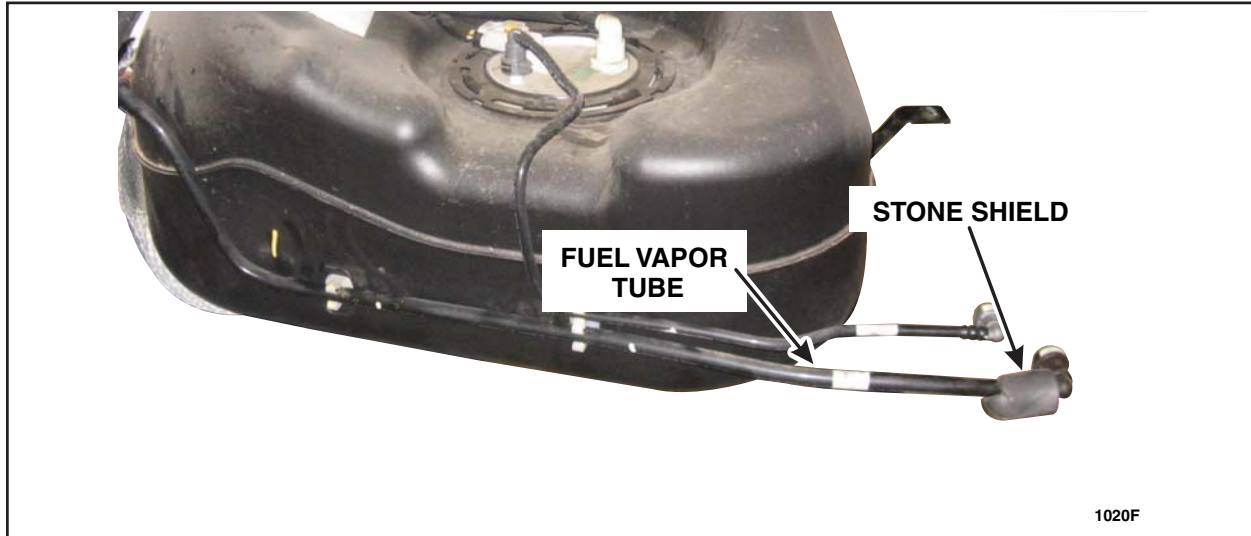

FIGURE 2
16. Remove the stone shield from the fuel vapor tube. See Figure 2.
42. Install the stone shield to the fuel vapor tube. See Figure 2.